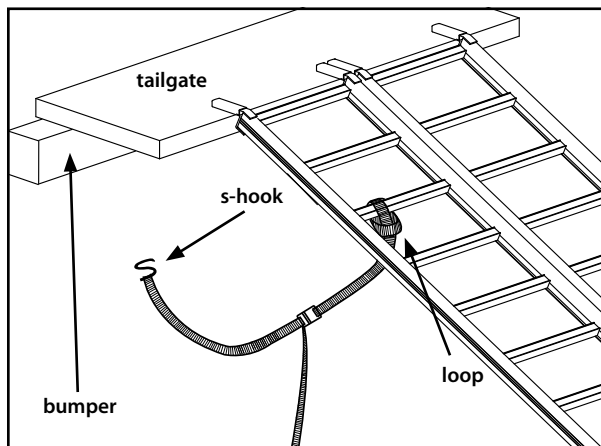

Figure 1
1. Attach the two provided securing straps to the third cross tread from the tailgate end (one on each side of ramp). Wrap the loop end of each strap around the cross tread and thread the buckle and "S" hook end thru the loop. This permanently attaches straps to the ramp. **SEE FIGURE 1.**